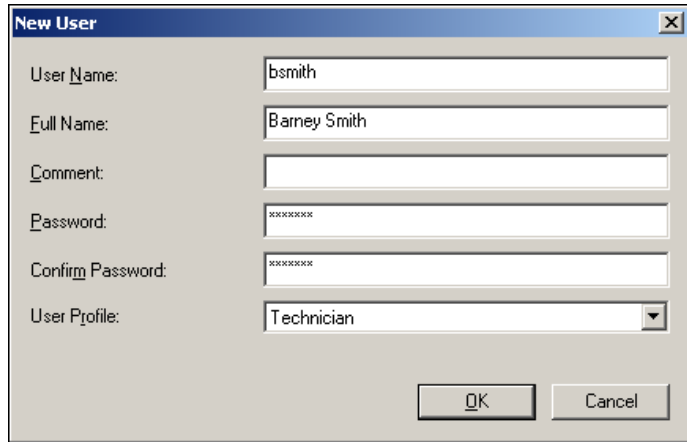

Figure 2-5. Add New User Dialog Box
2. Specify a case-sensitive login name and password in the User Name and Password controls, as shown in Figure 2-5.